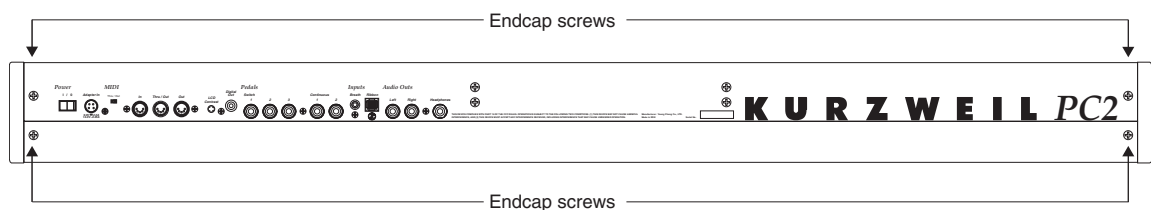

Figure 4-3 PC2 rear panel
2. Refer to Figure 4-3.
Note: Figure 4-3 is an illustration of the PC2 rear panel. An illustration of the PC2X has not been included because the difference between the two is minimal. The quantity and position of the endcap screws is identical.
3. Refer to Figure 4-3. Install the four endcap screws in the rear panel.